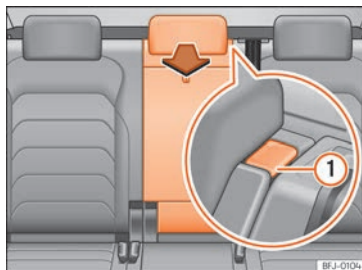

Fig. 207 Rear seat backrest: opening the tailboard for long objects.
- Press the unlocking button >>> Fig. 207 ① and fold the tailboard forwards >>> ⚠.